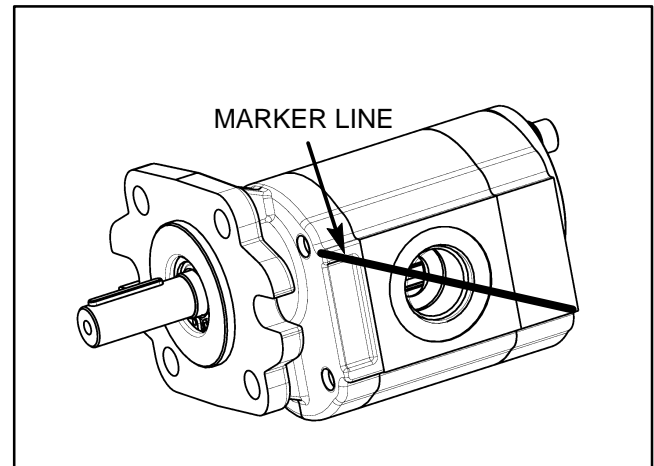

Figure 32
2. Use a marker to make a **diagonal** line across the front thrust plate, body and rear flange for assembly purposes (Fig. 32).
NOTE: When assembling the pump, check the marker line on each part to make sure the pump components are properly aligned during assembly (Fig. 32).